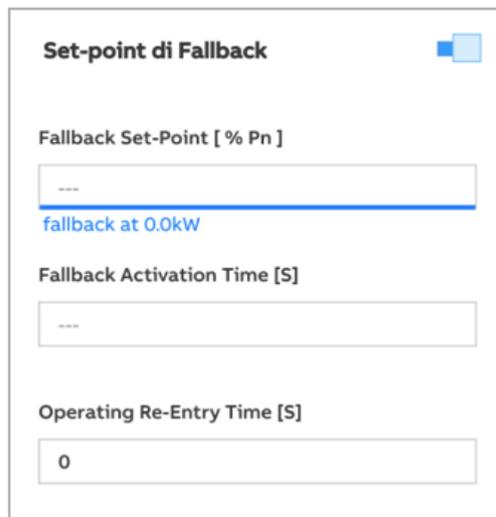

Figure 20 - Fallback settings for fails-safe operations
- Figure 20 - Fallback settings for fail-safe operations